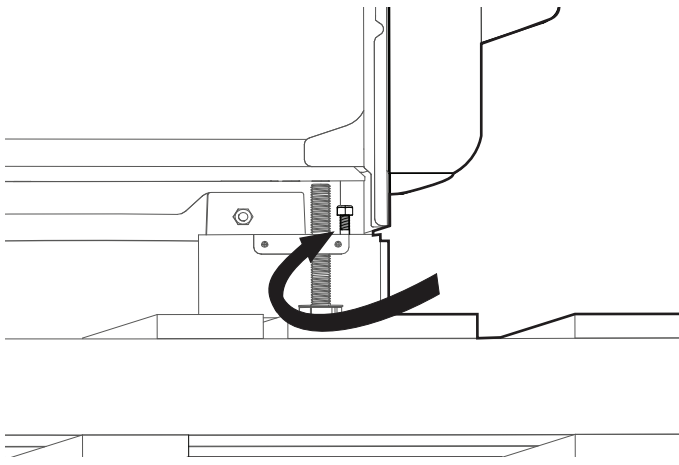

Figure 9: Removal of Bolts Beneath Warming Drawer
- PRDS48JDSGU/C models:** To access the pallet bolt located beneath the warming drawer, reach up and behind the frame of the unit with one 1/2" wrench to hold the nut at the top (see Figure 9). Use the second wrench to loosen the bolt at the bottom. **DO NOT remove the warming drawer.**